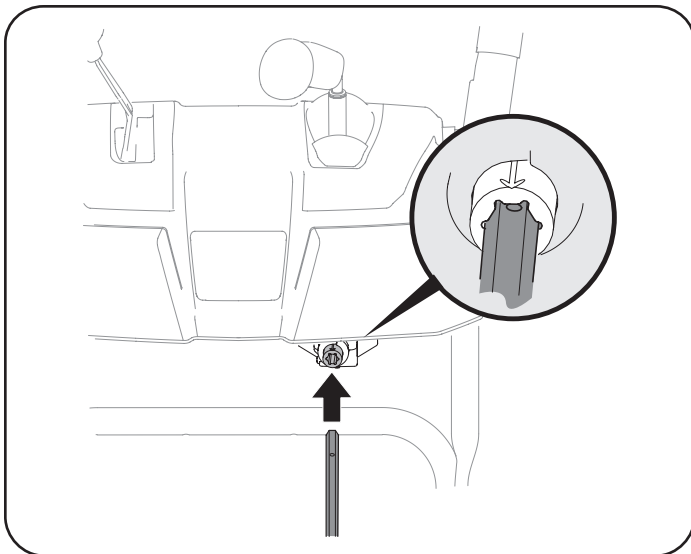

Figure 24
6. Insert chute control rod into pinion gear below joystick. Make sure to line up hole in rod with arrow on pinion gear. See Figure 24.